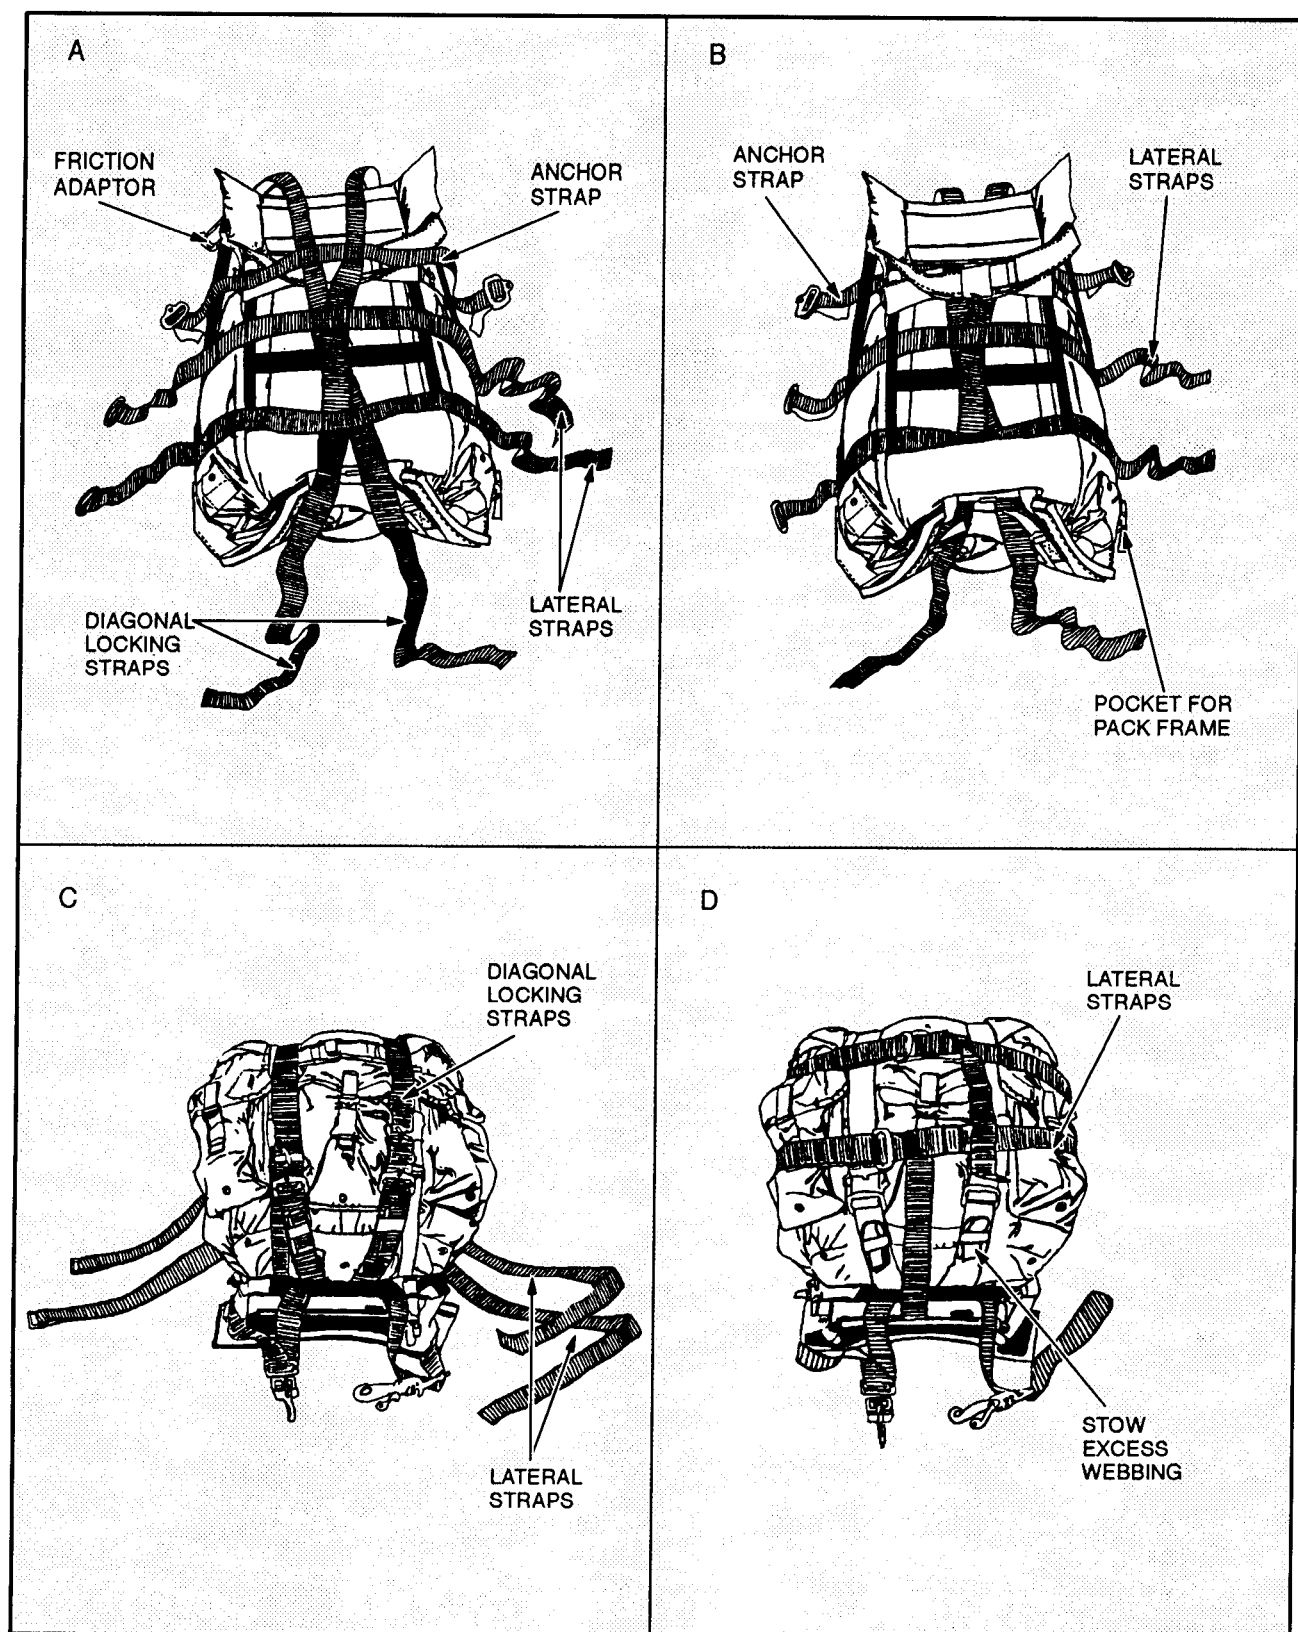

Figure 4-25. The combat pack and frame rigged with the improved equipment attachment sling.
- Tightens and secures all straps on the pack and positions the pack with the frame up (Figure 4-25). He positions the harness on the frame with the friction adapters on the diagonal locking straps at the bottom of the frame and the running ends at the top of the frame. He routes the friction adapters of the diagonal locking straps under the pack frame's base. He routes the anchor straps (parachute harness attaching straps with adjustable quick-release lugs) and lateral locking straps under the shoulder straps and over the pack frame.